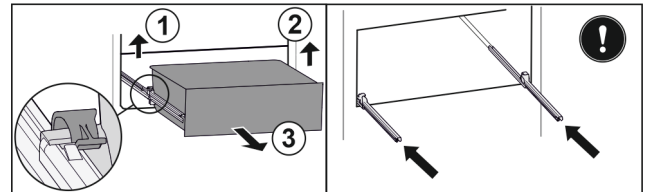

Fig. 143
- Lift left clamp and simultaneously pull drawer forwards on the left. Fig. 143 (1)
- Lift right clamp and simultaneously pull drawer forwards on the right. Fig. 143 (2)
- Remove drawer to the front. Fig. 143 (3)